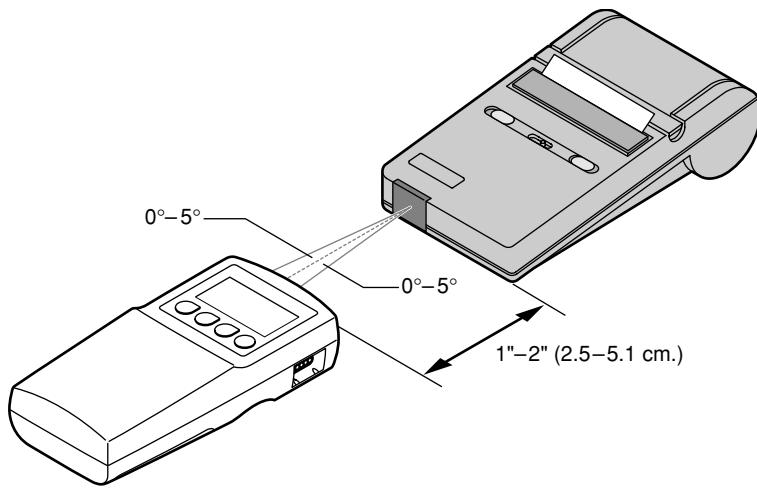

Figure 3-2: Printer Interface Setup
20. Align the NPB-40 with the printer as shown in Figure 3-2.
26. Align the NPB-40 with the printer as shown in Figure 3-2 and press the Shift key on the NPB-40 front panel keypad, followed by the Store Data/Print key.